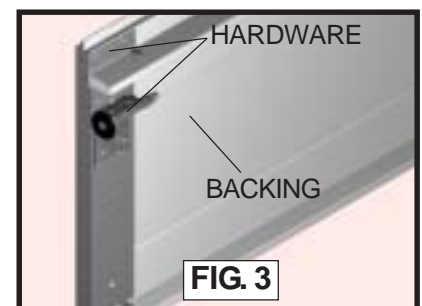

FIG. 3
- 1) **9900 Thermowayne[™]** will have **painted hardware** (top brackets, bottom brackets, end caps, etc.) with a **steel backing** on the sections. (see Fig. 3)
- 2) **9600 Thermogard[®]** will have **galvanized hardware**, with a steel **backing** on the sections. (see Fig. 3)
- 3) **9200/9100 Foamcore[™]** will have **galvanized hardware**, with a **laminated (soft) backing** on the sections. (see Fig. 3)